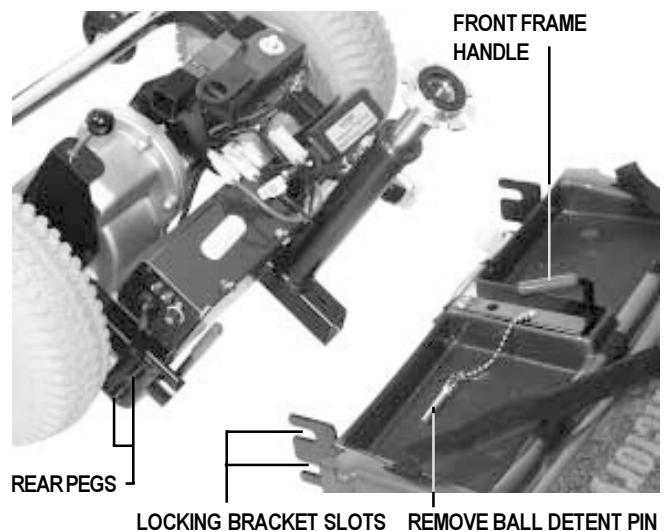

Figure 23. Front and Rear Section Connections
11. Place one hand on the seat pedestal and one hand on the front frame handle; gently slide the front and rear sections apart. See figure 23.
2. Position the front and rear sections of your Scooter as shown in figure 23.